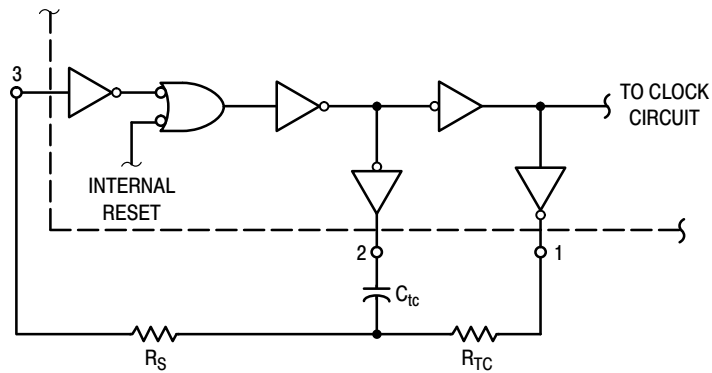

Figure 3. Oscillator Circuit Using RC Configuration
4. When using the on chip oscillator the total supply current (in μAdc) becomes: I_T = I_D + 2 C_{tc} V_{DD} f × 10⁻³ where I_D is in μA, C_{tc} is in pF, V_{DD} in Volts DC, and f in kHz. (see Fig. 3) Dissipation during power-on with automatic reset enabled is typically 50 μA @ V_{DD} = 10 Vdc.
The RC oscillator as shown in Figure 3 will oscillate with a frequency determined by the external RC network i.e.,